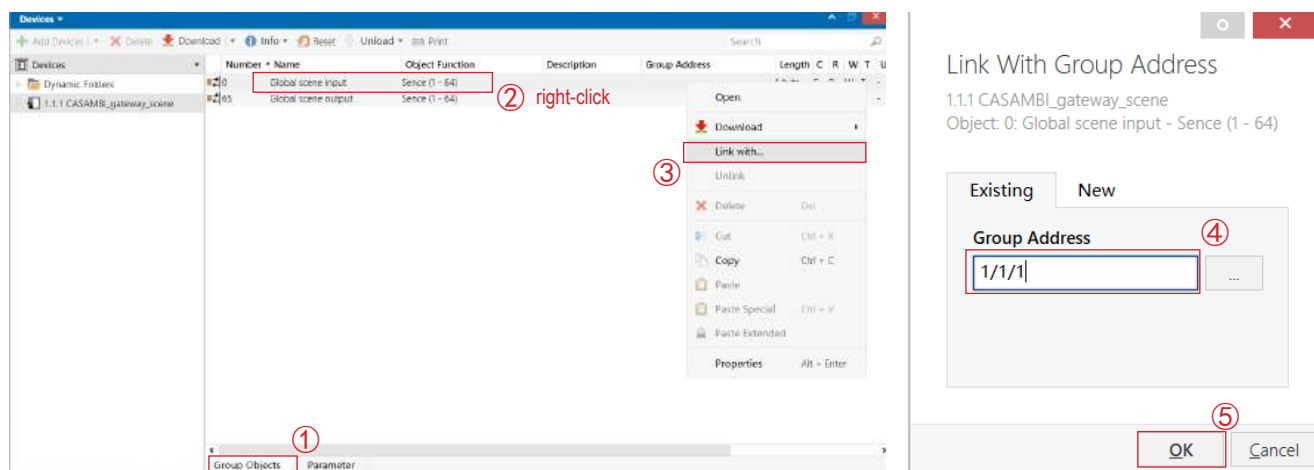

Figure 11
- For bi-directional scene activation function, Assign group addresses for Group objects (“Global scene input”, “Global scene output”, as below in Figure 11).